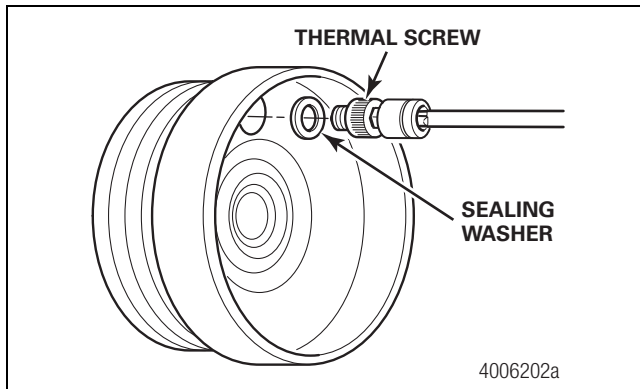

Figure 3.22
- I. Remove the thermal screw with a 5/32-inch (4 mm) Allen-head socket. Figure 3.22.